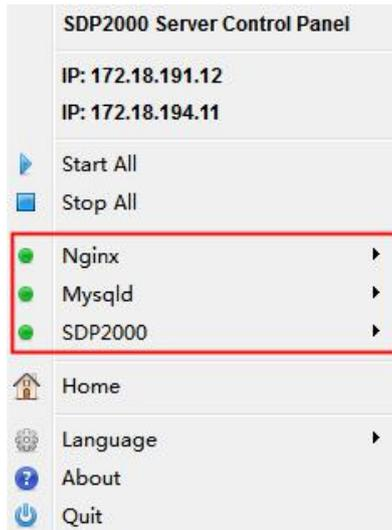

Figure 4-3
Step 2: Check if the status of Nginx, Mysqlqld, and SDP2000 is ""green (normal status), if any item displays ""gray status, then you need to "restart" the software, so that the status of PHP, Nginx, and MariaDb becomes ""green (Normal state), as shown in Figure 4-3 below.